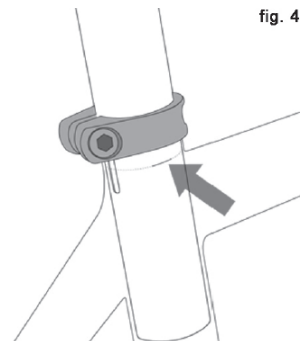

fig. 4
- Once the saddle is at the correct height, make sure that the seat post does not project from the frame beyond its "Minimum Insertion" or "Maximum Extension" mark (fig. 4).